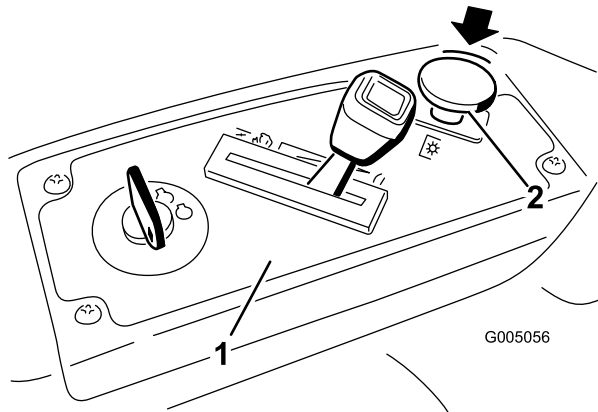

Figure 14
Push down on the blade control switch to move it to the Off position and disengage the blades (Figure 14).
1. Disengage the blades by moving the blade control switch to Off (Figure 14).